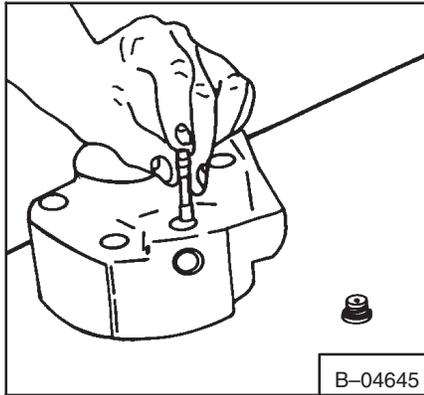

Fig. 3-72 Installing Shuttle Valve
25. Install the shuttle (Fig. 3-72), poppet, dampener and spring in the other side of the housing.